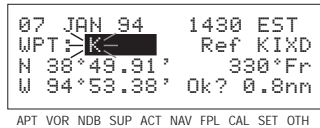
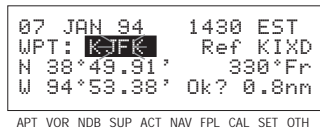
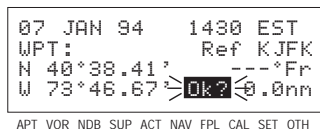

Figure 4-14
Figure 4-15
Figure 4-16
- To aid the GPS receiver in acquiring your position, it is vital that it have a reasonable idea of where you are, and the Initialization page is where you have the chance to set this initial position. Check to see if the displayed initial position is where you actually are. This latitude/longitude is the last known position before the power was shut down the last time. Unless the unit has been moved since its last use, this position should be correct. On the right side of the screen will be the identifier of the nearest airport in the database, with a radial and distance from that airport. If you need to change the initial position to—let's say—John F. Kennedy International (KJFK), move the cursor to the **WPT:** field and use the right inner knob to select a K as the first character of the identifier (figure 4-14). Move the cursor to the right one character and select a J and then right again to select an F. The final K should be filled in by the data base (figure 4-15). When you press **ENT**, the latitude and longitude fields will change to those of KJFK (figure 4-16). If necessary, the latitude and longitude may be entered manually.